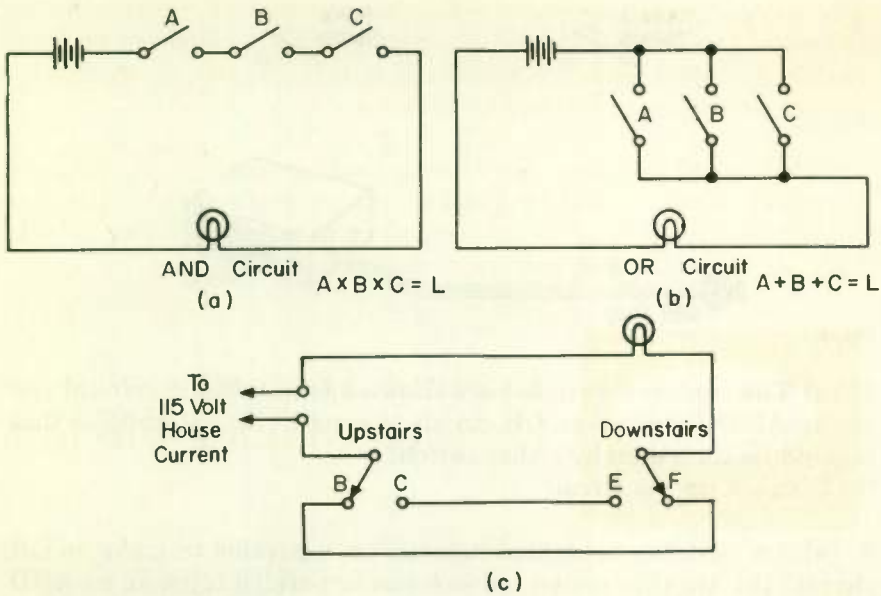

Fig. 1 Some logic circuits.
- 1 AND CIRCUITS WITH SWITCHES . . . In the series circuit of Fig. 1 (a) switch *A* AND switch *B* AND switch *C* must all be closed before the lamp will light. For this reason computer people call switches in series an AND circuit. The AND circuit is widely used in computers, automatic control systems, instrumentation, telemetry, and other modern electronic equipment. While Fig. 1 (a) shows three switches, any number, two or more, can be used. Anyone who rents a safe deposit box knows that it can be opened only if two keys are used — the customer's AND the banker's. It won't unlock with one key OR the other key. Both must be used. This is an analogy of an AND circuit.
- 2 OR CIRCUIT WITH SWITCHES . . . In Fig. 1 (b) the switches are connected in parallel. With this arrangement the lamp will light if any one (or more) of the switches *A* OR *B* OR *C* is closed. Switches in parallel are called an OR circuit.
3 COMBINATION AND/OR circuits . . . Combinations of AND and OR circuits are very common. In fact, there is a good chance that you have one in your home. Most two-story houses have two switches for the stairway light, one upstairs and one downstairs. You can turn the light off or on with either one of the two switches. It is not necessary to turn the light off with the switch used to turn it on. Figure 1 (c) shows how to wire up this circuit by using two single-pole double-throw (SPDT) switches. But before you study the figure, you can have some educational fun seeing if you can draw a diagram of a circuit that will do the trick. You can have some more fun seeing if your electrical-minded friends can do it.
Notice that you can't use a simple OR circuit such as shown in Fig. 1 (b). With that type of circuit, if you turned the light on at one switch, you would have to go back to the same switch to turn the light off again. We want a circuit so arranged that if the light is turned on at, say, the downstairs switch, it can be turned off, if desired, at the upstairs switch.
The switches used in Fig. 1 (c) are called single-pole, because each switch has but a single blade (the blade is the moving part with the arrow). The switches are called double-throw, because no matter which way you snap the switch, it connects up to circuit wiring. The switches of Fig. 1 (a) and (b) are single-throw, because when in the off position, all wiring going to the switch is open. Single-pole double-throw switches are called "three-way switches" by electricians, but that name is never used in electronics.
Let's see how the circuit of Fig. 1 (c) works:
4 **BOOLEAN ALGEBRA – COMPUTER SHORTHAND . . .** In computer language the “shorthand” symbol for the word AND is the multiplication sign (\times). For the AND circuit of Fig. 1 (a) we can write $A \times B \times C$, instead of “switch *A* AND switch *B* AND switch *C*.”
For the OR circuit the symbol is the addition sign ($+$). So we can write $A + B + C$ for the circuit of Fig. 1 (b), instead of “switch *A* OR switch *B* OR switch *C*.”
When we write $A \times B \times C$ for such a circuit as Fig. 1 (a), we have not told you what the *result* will be when all these switches are closed. Something happens as a result: the lamp lights. If we call the lamp by the letter *L*, we can say, $A \times B \times C = L$. This is shorthand for the statement “When *A* AND *B* AND *C* are closed, the lamp will light.” It is an example of “computerese” (computer talk.)
In a previous example, we expressed what goes on in the circuit of Fig. 1 (b) by writing $L = A + B + C$ you learned that this means "Lamp L lights when switch A OR switch B OR switch C is closed." For the circuit of Fig. 1 (c) we write $L = (C \times E) + (B \times F)$, which means "Lamp L lights when switches are in position C AND E OR when switches are in positions B AND F ." The parentheses are not necessary but help show the two AND circuits.